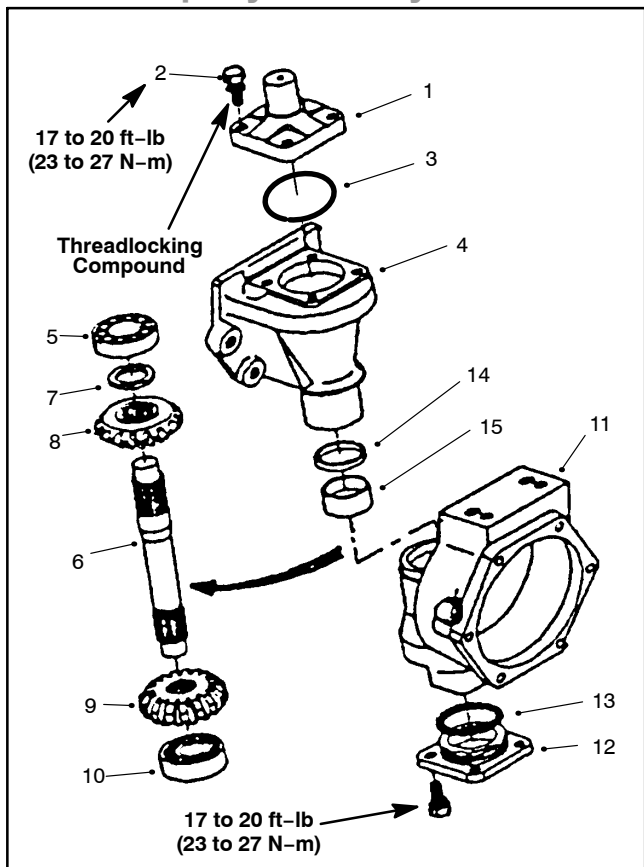

Figure 16
5. Remove the knuckle pin mounting screws and the knuckle pin. Remove the gasket and any remaining gasket material from either mating surface (Fig. 16).
10. Remove and discard bevel gear shaft seal from axle case (Fig. 16).